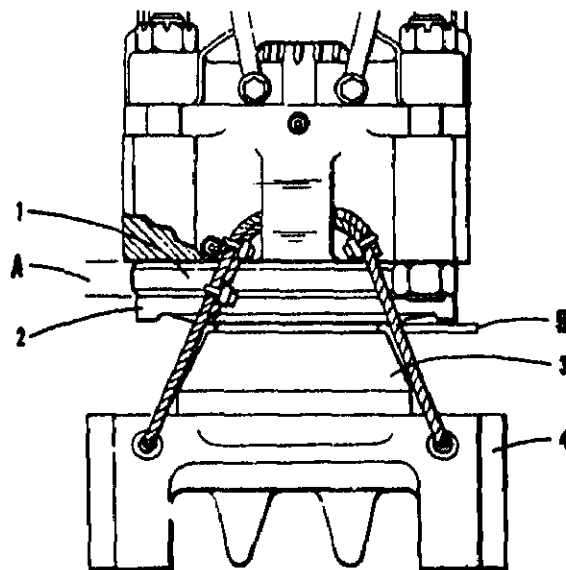

FIG. 11-4
The recoil damper should be checked for wear weekly by measuring the distance (A), between the anvil retainer and the cushion adapter cap, as shown on Fig. 11-4. When dimension (A) becomes $1\frac{1}{2}$ " or less, the recoil damper should be replaced. A new recoil damper measures $1\frac{3}{4}$ " thick.
- (b) Remove driving head cable sling, Fig. 11-4.
Although the adapter assembly affords protection to the pile, its express purpose is to protect the Hammer. The disc assembly should be checked for compression weekly. Extrusion of the aluminum discs and deterioration of the plastic discs make compression of the assembly visibly noticeable. The original gap (B) is 5/8" with new discs and when it is reduced to 1/4", the aluminum and plastic discs should be replaced. See Fig. 11-4.
The clearance between cap, Fig. 11-4, and adapter cap can be measured usually with the assembly in operating position as shown. The use of certain driving heads may not permit taking an accurate measurement to determine amount of wear and it may be necessary to loosen cable sling and lower driving head to take measurement.